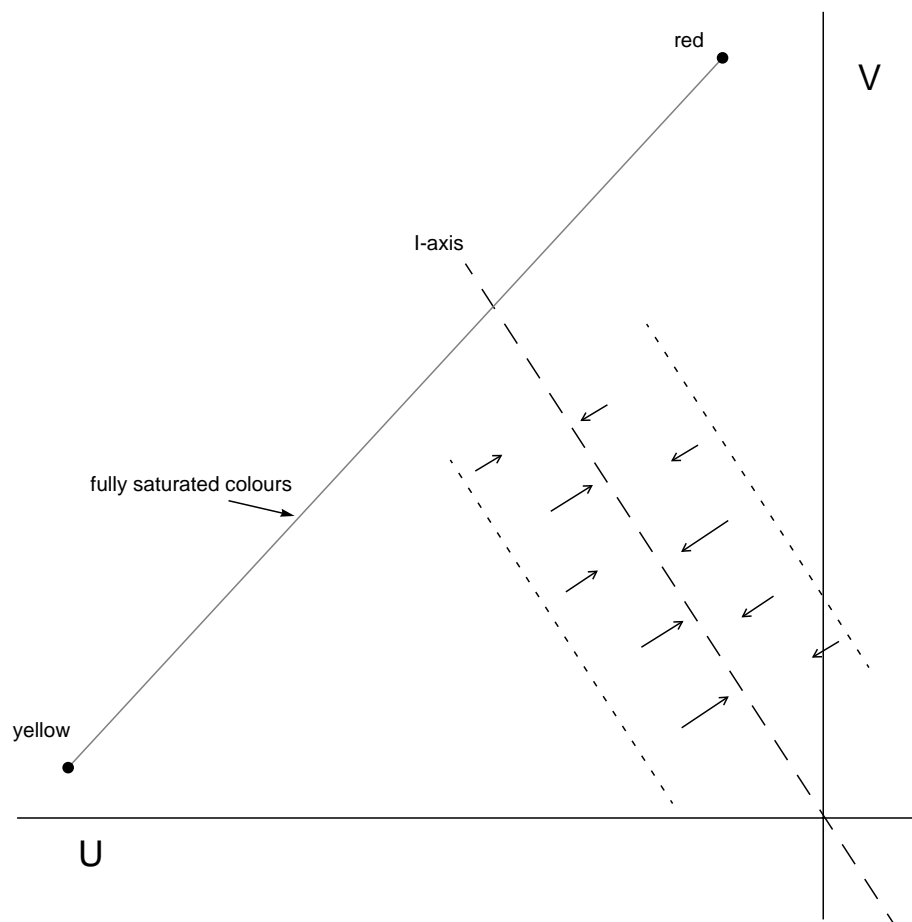

Fig.20 Skin tone correction range for a correction angle of 123 deg.
46. The Dynamic Skin Tone Correction circuit is designed such that it corrects (instantaneously and locally) the hue of those colours which are located in the area in the UV plane that matches to skin tones. The correction is dependent on the luminance, saturation and distance to the preferred axis and can be realised for 2 different angles. This angle can be set by means of the DSA bit. Because the amount of correction is dependent on the parameters of the incoming YUV signal it is not possible to give exact figures for the correction angle. The correction angle of 45 ( $\pm 22.5$ ) degrees is just given as an indication and is valid for an input signal with a luminance signal amplitude of 75% and a colour saturation of 50%. A graphical representation of the control behaviour is given in Fig.20.